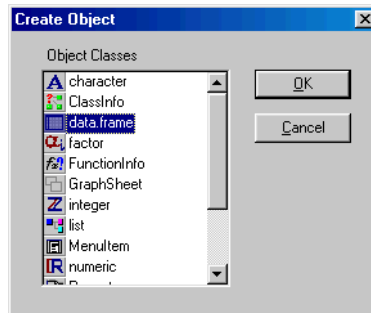

Figure 7.15: The *Create Object* dialog.
1. Right-click the folder's icon and select **Insert** from the shortcut menu. The **Create Object** dialog opens, as shown in Figure 7.15.